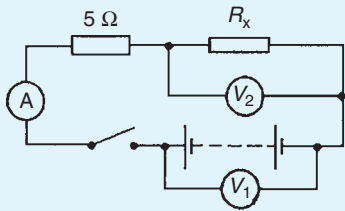

Figure 5.10
- When the switch in the circuit in Fig. 5.10 is closed the reading on voltmeter 1 is 30 V and that on voltmeter 2 is 10 V. Determine the reading on the ammeter and the value of resistor R_x [4 A, 2.5 Ω]